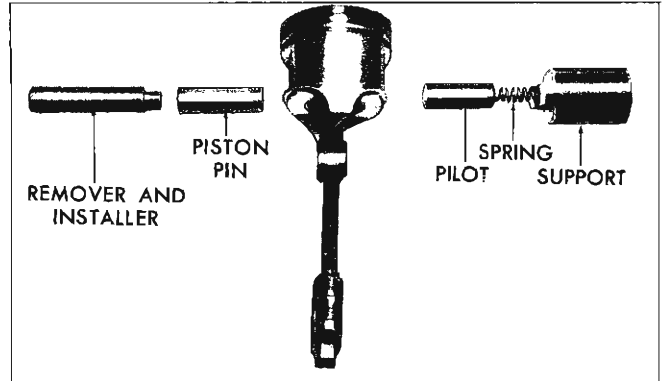

Fig. 59—Piston Pin Installation
- Install piston pin on installer and pilot spring and pilot in support (fig. 59).